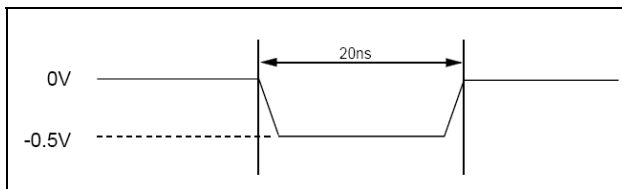

Figure3.Maximum Negative Overshoot Waveform
**Note5:** Test condition is shown as Figure 3.